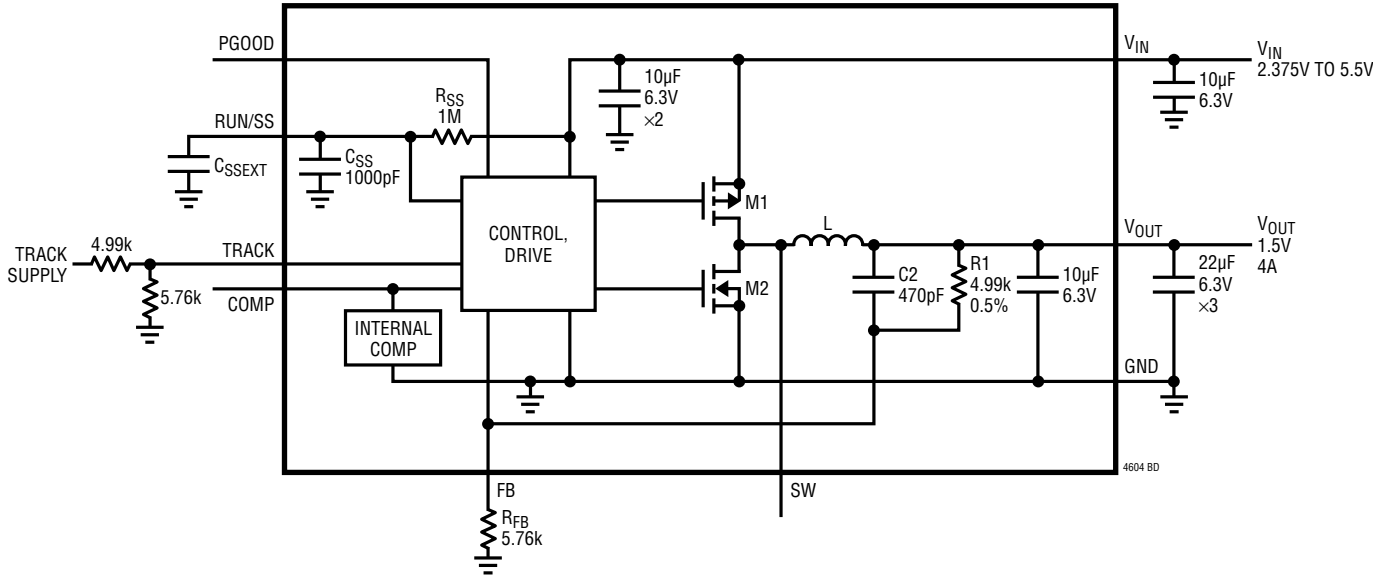

Figure 1. Simplified LTM4604 Block Diagram
**DECOUPLING REQUIREMENTS**  $T_A = 25^\circ\text{C}$ . Use Figure 1 Configuration.
where  $R_{\text{SS}}$  and  $C_{\text{SS}}$  are shown in the Block Diagram of Figure 1, 1.8V is the soft-start upper range, and  $C_{\text{SSEXT}}$  is the additional capacitance for further soft-start control. The soft-start function can also be used to control the output ramp-up time, so that another regulator can be easily tracked. An independent ramp control can be applied to the master ramp, otherwise, connect the TRACK pin to  $V_{\text{IN}}$  to disable tracking. To turn off the module while  $V_{\text{IN}}$  remains active, the RUN/SS pin should be pulled low with a falling edge  $\leq 1\mu\text{s}$  to ensure the device does not transition slowly through the internal undervoltage lockout threshold.